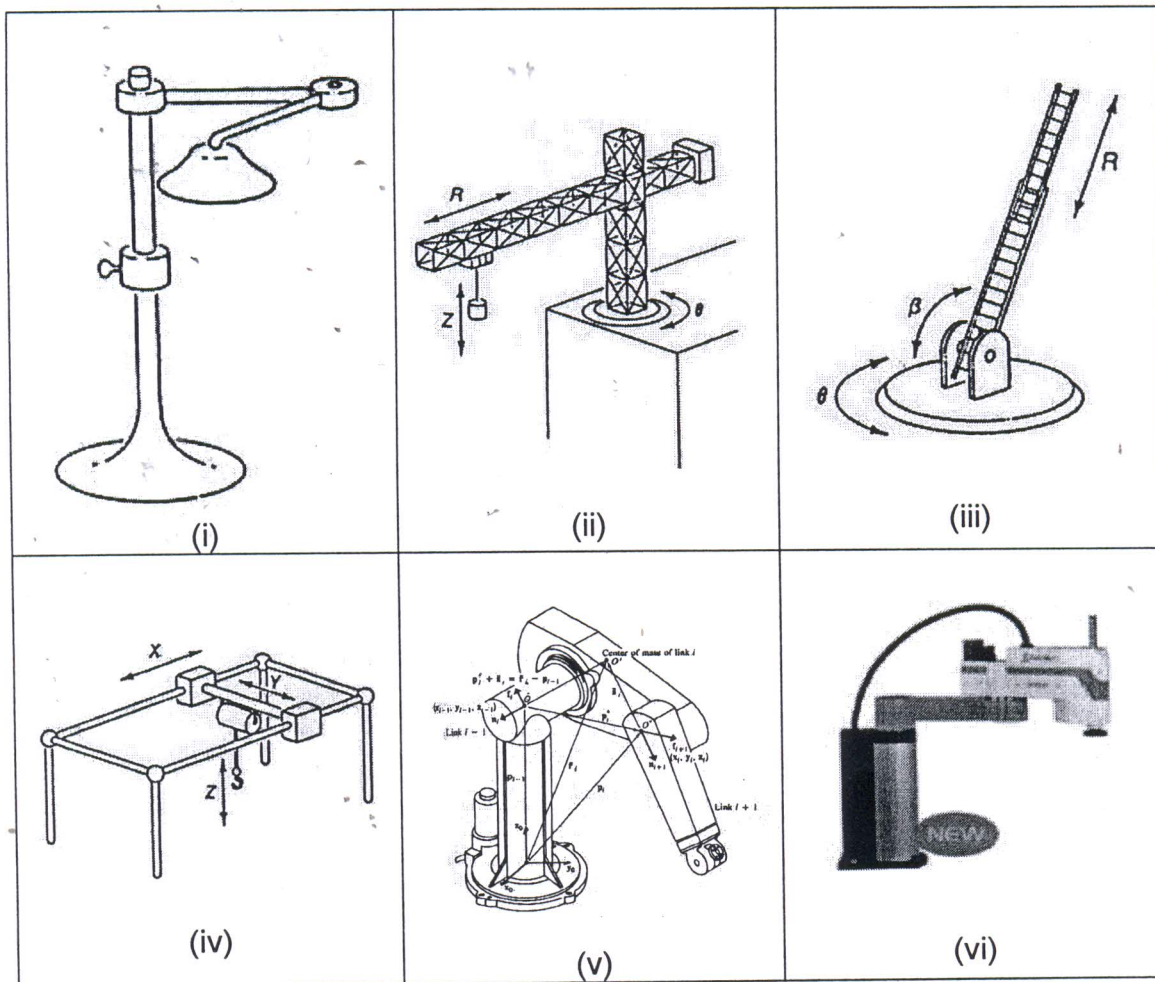

Figure 3: The type of robot configuration
- (b) State arm configurations would be the most suitable for the systems in **Figure 3**: (6 marks)